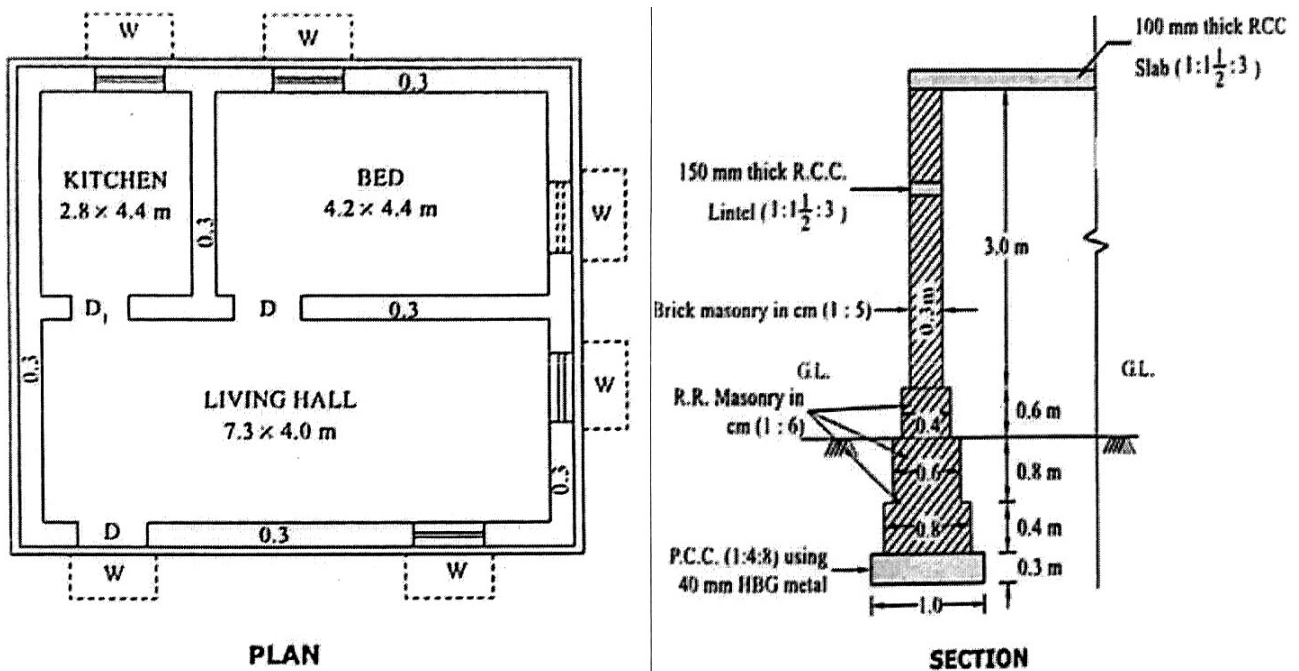

Fig.1
12. (a) Prepare the detailed estimate for the following items of works from the figure 1 :
(b) Prepare the detailed estimate for the following items of works from the figure 1 :